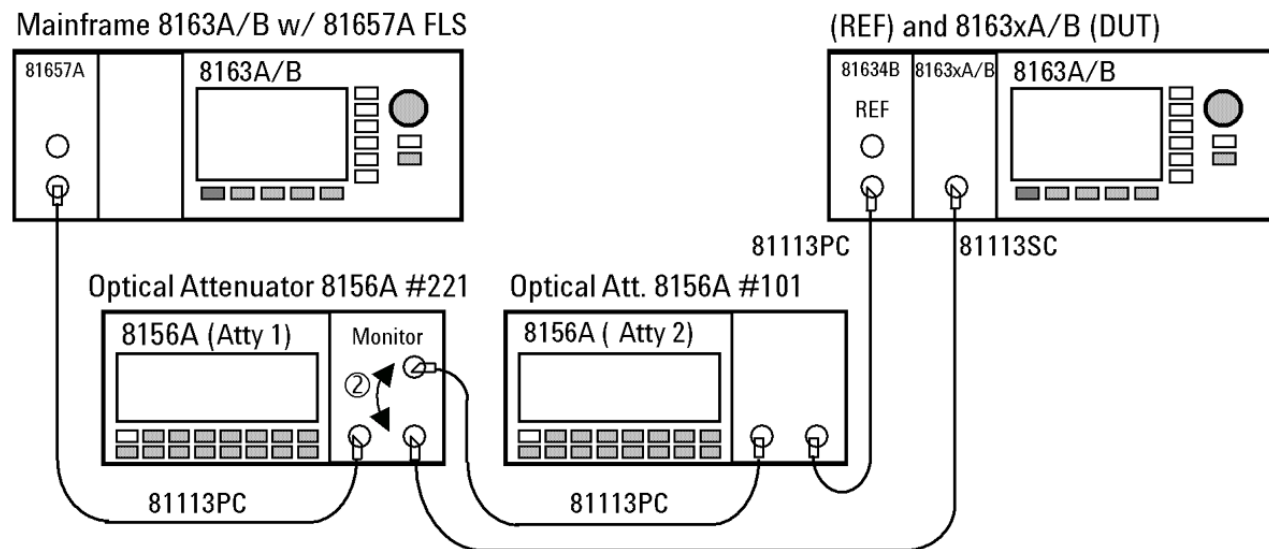

Figure 5 Measurement Setup for Power Linearity
- 3 Setup the equipment as shown in **Figure 5**. Disable both attenuators and enable the laser source, where the source wavelength is chosen to 1550 nm. If you are using the 81657A, move to the wavelength parameter, $[\lambda]$, press *Enter*, select the longer wavelength source (1550 nm nominally), and press *Enter*.